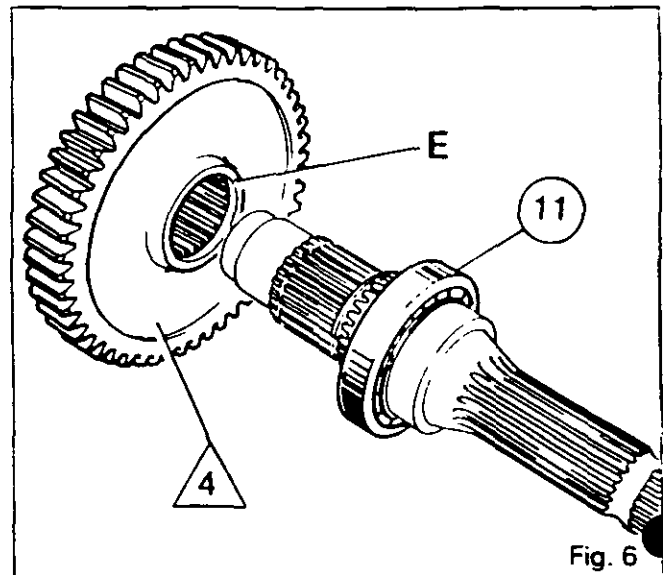

Fig. 6
33. Hold the gear /4\ in the housing, orienting the gear tooth chamfer E towards the bearing (11). (see Fig. 6). Engage the shaft in the gear and in the bearing (45).
34. Using tool MF 459 (section F) fitted with a sleeve of suitable length, install the retaining ring (46) in its correct position. Position the lubricated O-ring (5) in the recess in the housing.
35. Lubricate the sealing bush (10). Install the seal holder (7) and the circlip (71).